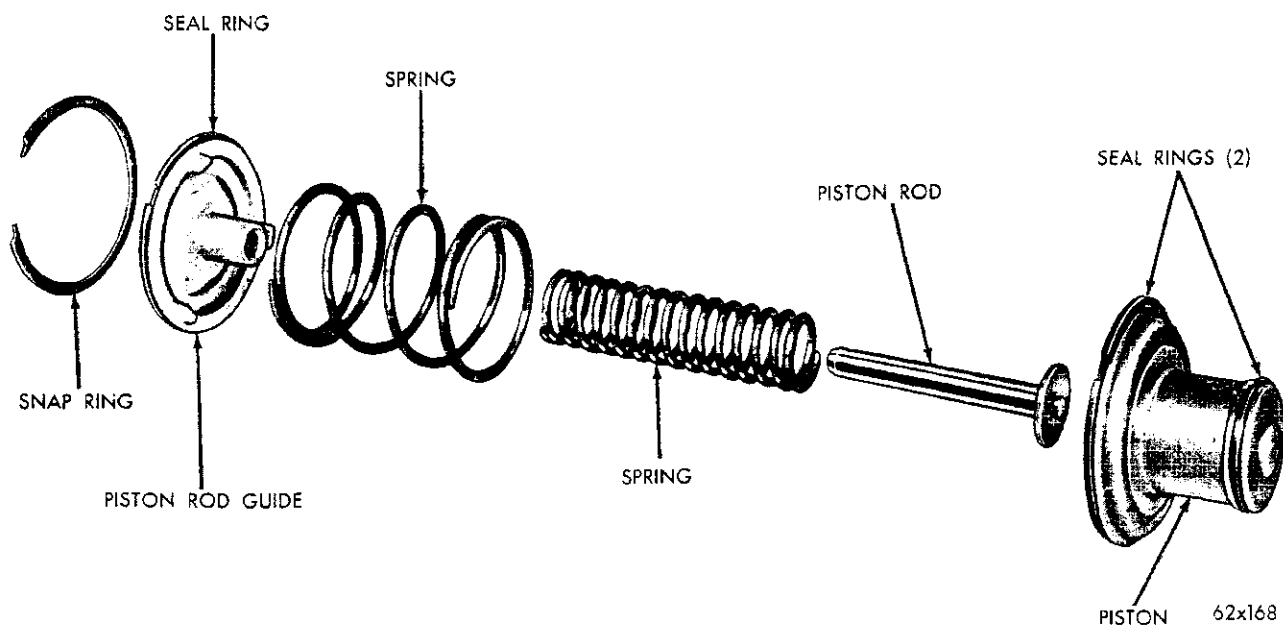

Fig. 75—Kickdown Servo (Disassembled)
Figure 75 shows a disassembled view of the kick-down servo assembly.
(1) Carefully push the servo piston into case bore. Install piston rod, the two springs and the guide (Fig. 75).
(2) Compress the kickdown servo springs by using "Engine Valve Spring Compressor Tool C-3422",